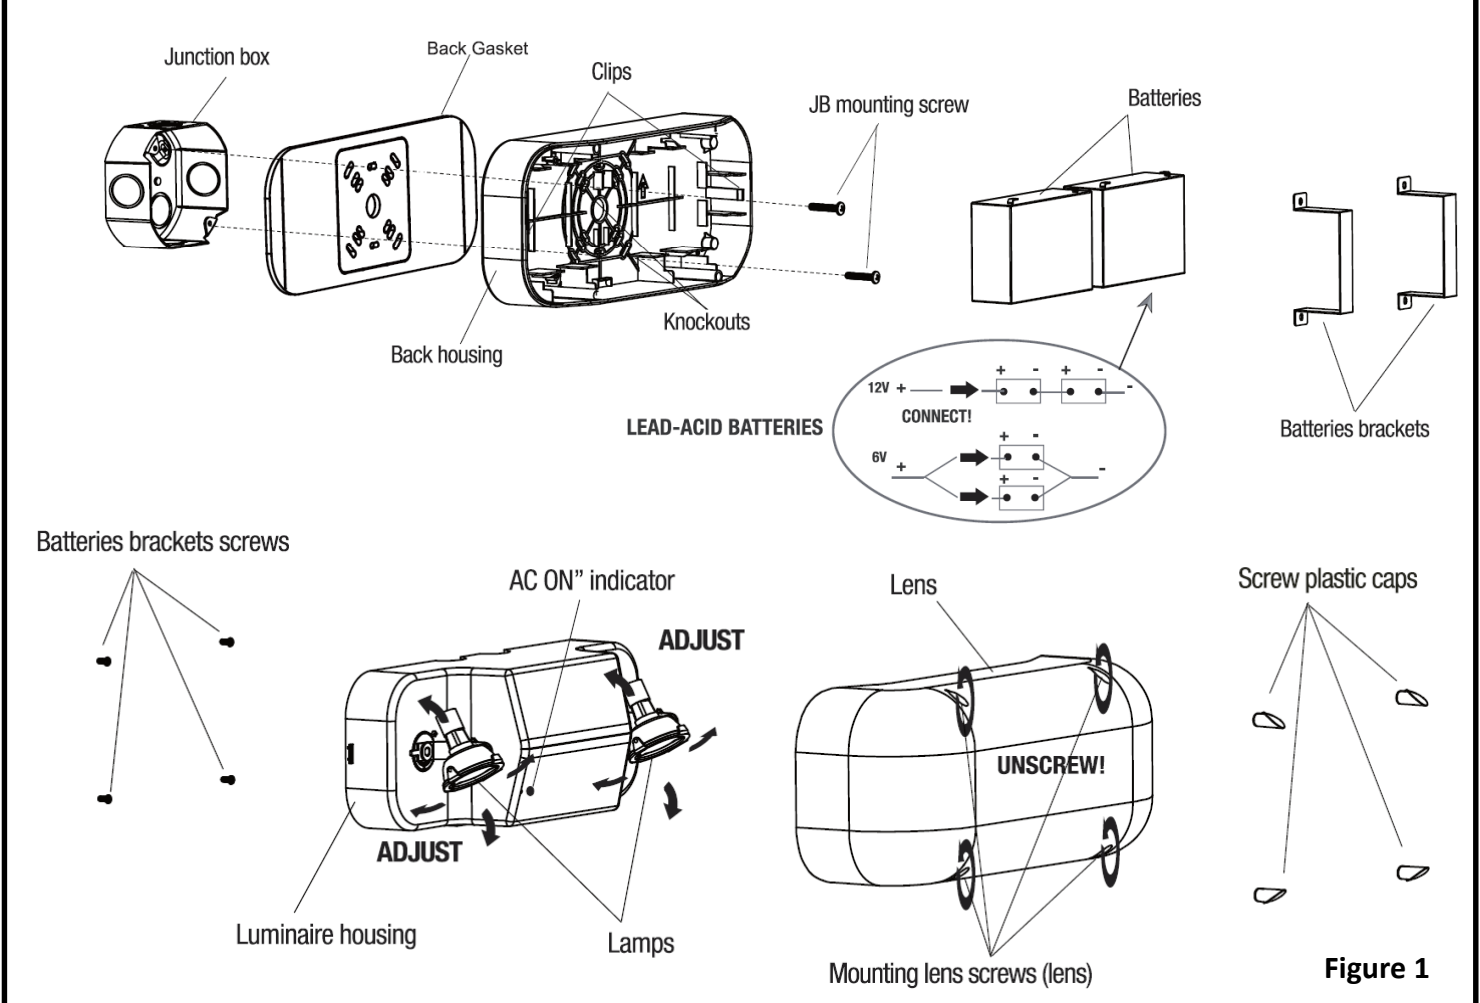

Figure 1
8. Install the batteries back using the brackets previously removed. Complete battery connection using the leads or connector from the PCB inside the housing. For SLA (Lead acid) battery models, refer to Fig. 1 to make the correct battery connections.
2. Remove the (2) side gaskets from the gasket sheet provided and attach the sheet to the fixture's backside.
3. Mount the (2) surface mounting brackets onto the fixture's backside and secure using the screws provided.
4. Place the housing on the required surface. Drill (4) holes using the brackets holes as a drilling template and fix the mounting anchors inside the holes.
9. Install the batteries back using the brackets previously removed. Complete battery connection using the leads or connector from the PCB inside the housing. For SLA (Lead acid) battery models, refer to Fig. 1 to make the correct battery connections.
12. Mount the fixture to the surface using the (4) mounting screws and previously installed screw anchors.